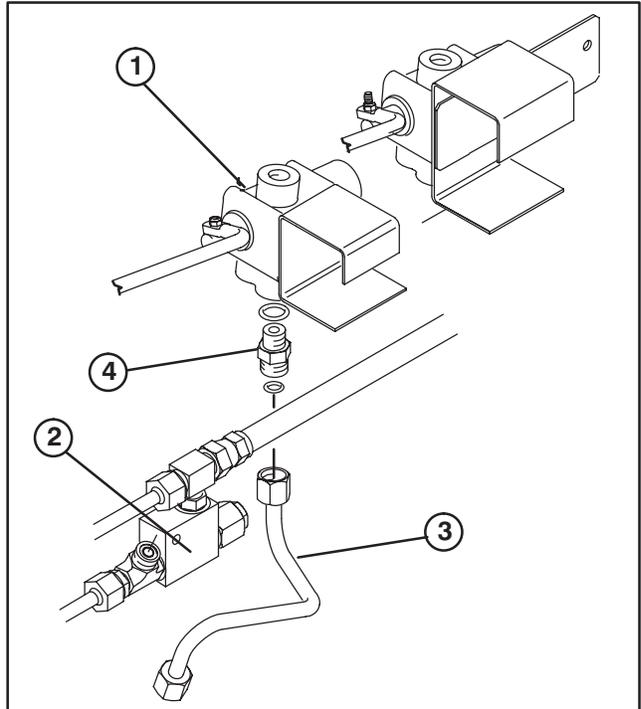

Figure 12
20. Remove existing hydraulic line mounted to bottom port of lift valve and front tee fitting of power steering relief valve. Remove straight fitting from bottom port of lift valve (Fig. 12).